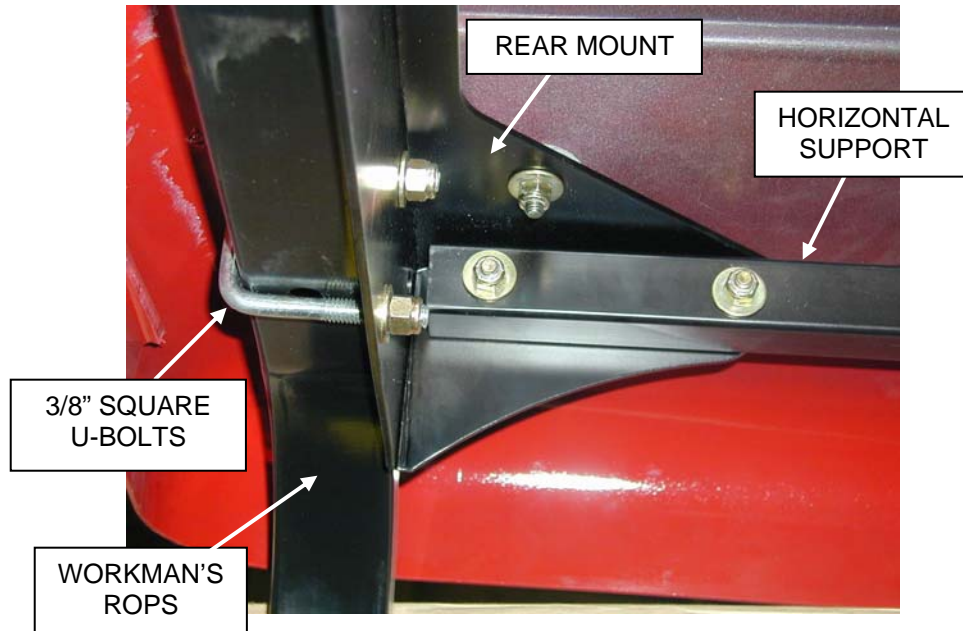

Figure 3
27. Secure the back of the frame structure onto workman ROPS (Roll bar). Center and secure with (2) 3/8" square U-bolts, (4) 3/8" flat washers and (4) 3/8-16unc nylock nuts. See Figure 3.